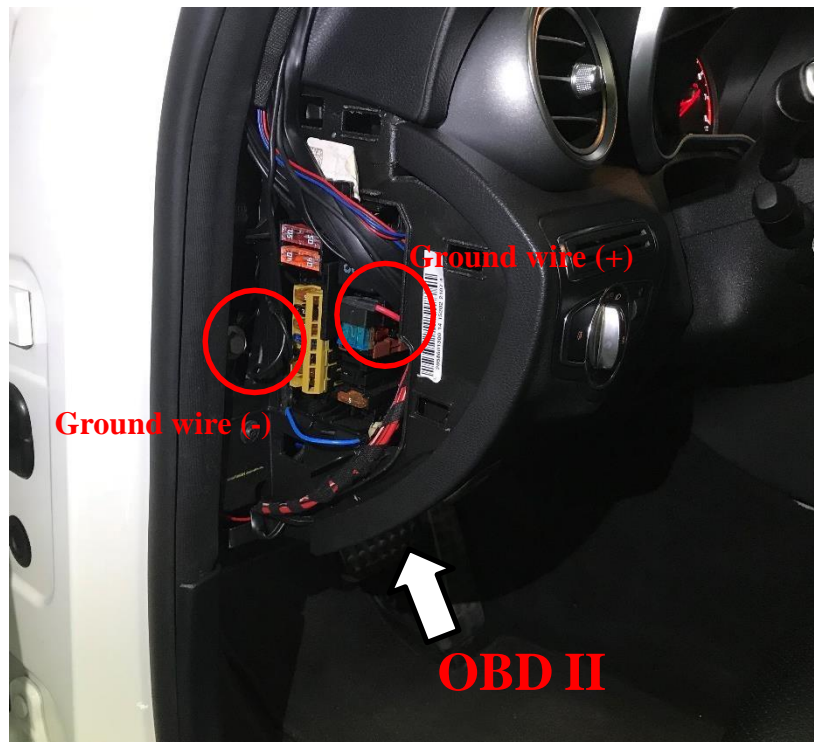
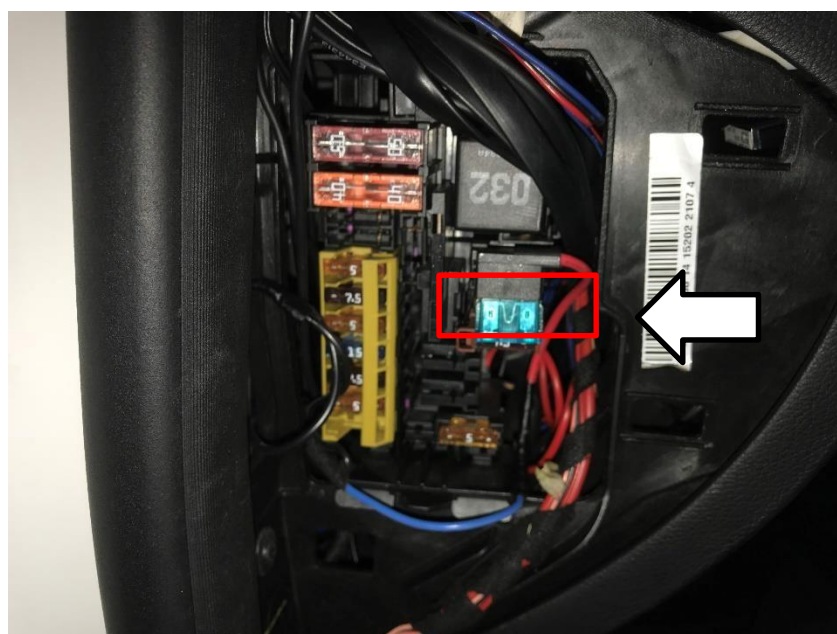

Fig. 15
Fig. 16
1. Install the positive power supply of the host directly under the fuse box 032 relay in the cab (Fig. 16) the negative pole can be locked on the screw (Fig.15) and connected to the OBD II.